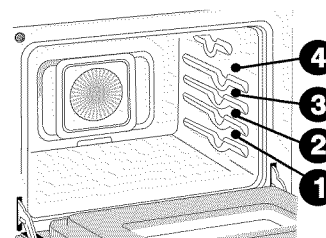
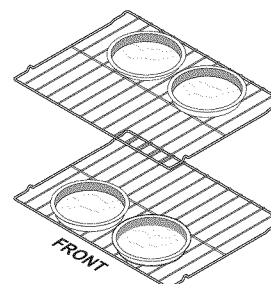

Figure 37: Lower oven rack positions
Figure 38: Lower oven, multi rack convection pan spacing
- When baking cakes using two oven racks, place bakeware in positions 1 and 3 (Figure 37) and place pans as shown in Figure 38.